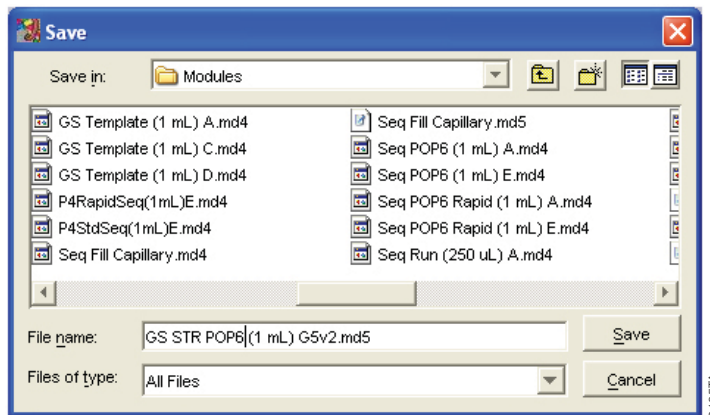

Figure 5. The Save screen.
- Save the new module in the Modules folder. Change the file name to “GS STR POP6 (1mL) G5v2.md5”, and select “Save” (Figure 5).